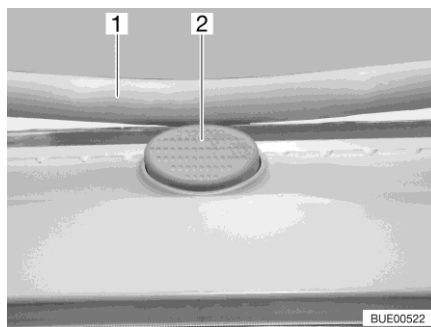

Fig. 27 Safety knob (Heki skylight)
- Press the safety knob (Fig. 27,2) and pull the bar (Fig. 27,1) down with both hands.
- Push the bar upwards with both hands until it is above the safety knob (Fig. 27,2).